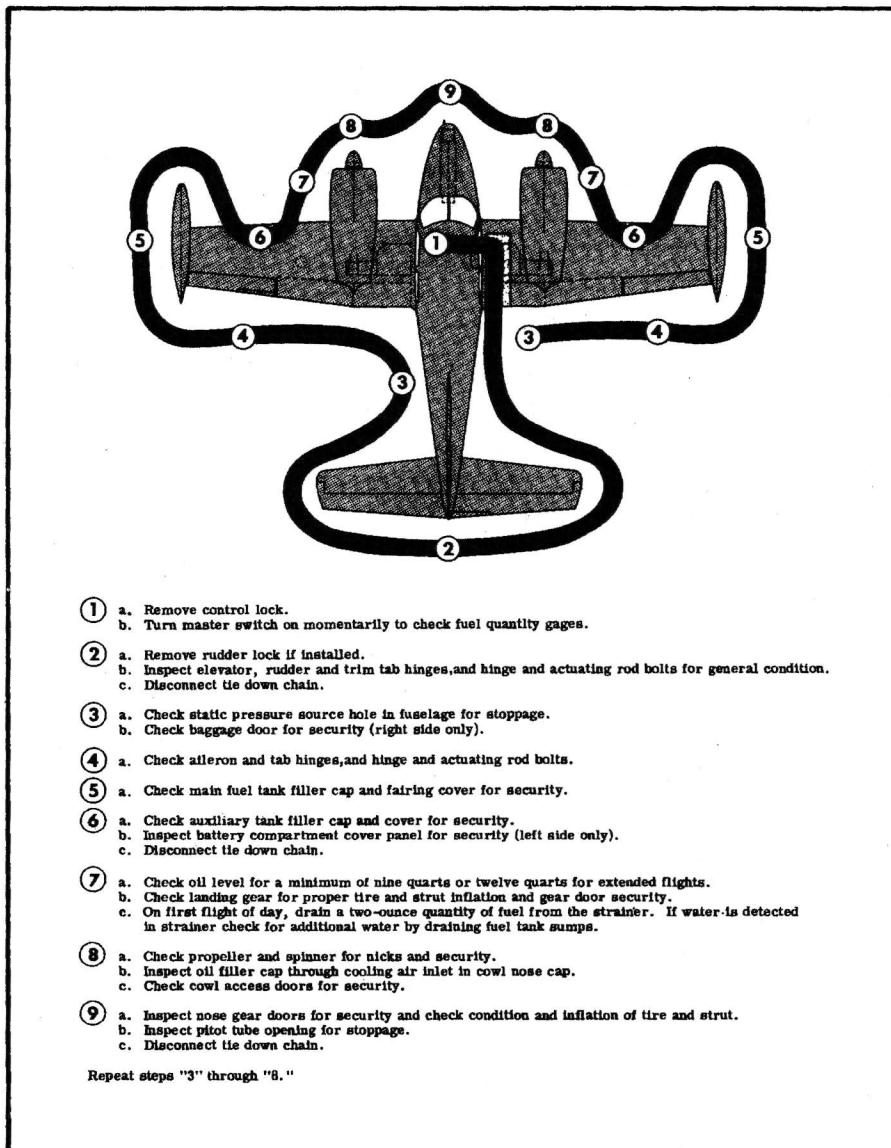

Figure 2-1. Exterior Inspection
1. Perform an exterior inspection (see figure 2-1).